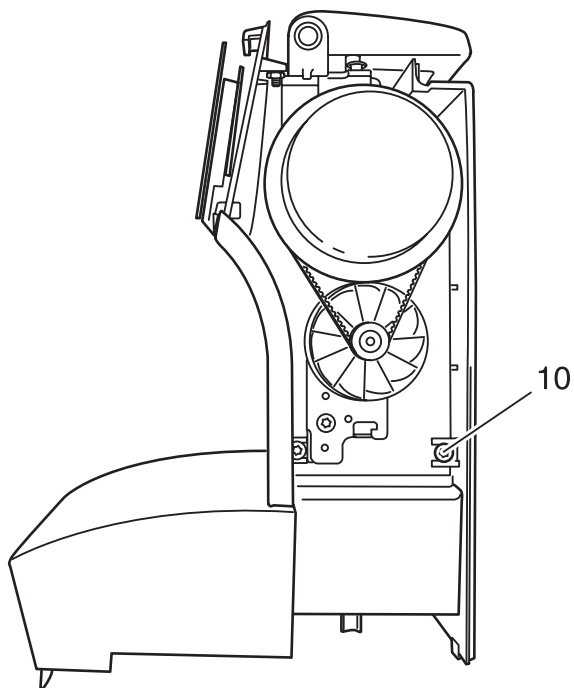

Fig. 9
- Remove fastening screws 10 and 11 on the rear housing shell (fig. 9 and 10).